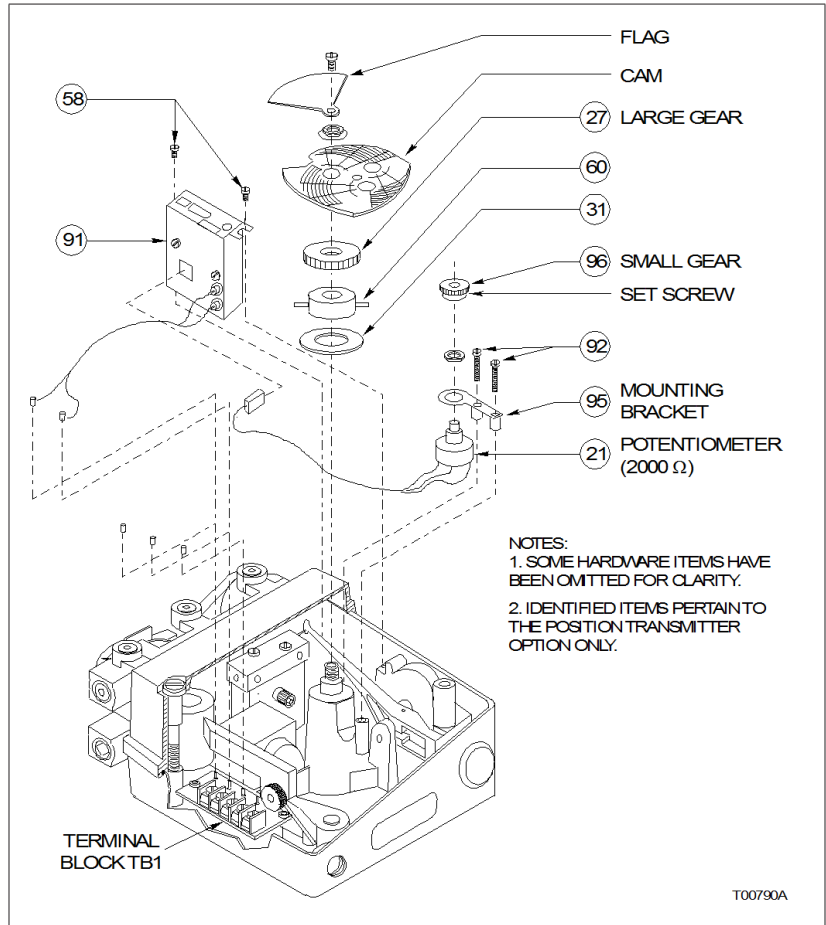

Figure A-5. 4 to 20-mA Position Transmitter (Exploded View)
- a. Remove the cam, by removing the screw, flag, nut and washer (Fig. A-5 and Table A-2).
b. Loosen the set screw on the hub of the small gear using a $\frac{1}{16}$ -in. Allen wrench (Fig. A-5 and Table A-2).
NOTE: If the mesh between the large and small gears is not tight, adjust the position of the potentiometer mounting bracket (Fig. A-5 and Table A-2) so that backlash is eliminated.
e. Remove the ohmmeter from TB1-1 and TB1-2. Install the cam, screw, flag, nut and washer (Fig. A-5 and Table A-2).